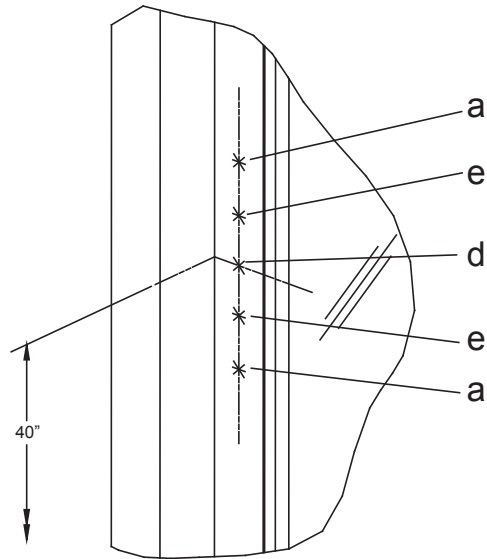

Fig. 2
3. Detex recommends the device to be mounted 40" above the finished floor. Mark the 40" centerline of the device across the door and frame. (See Fig. 2)